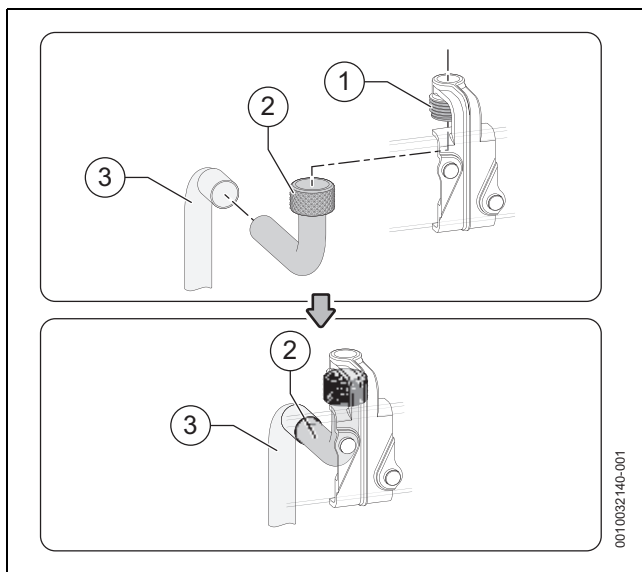

Fig. 46 PRV connection preparation
- ▶ Fit the PRV pre-plumbing connector [2] to the PRV locator bracket [1] as shown in the figure 46.